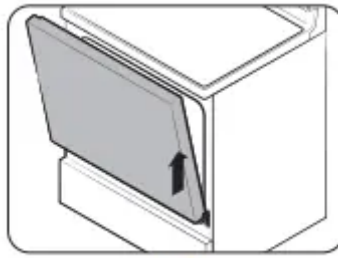

Fig. 2
5. Lift door up and out until the hinge arm is clear of the slot. (Fig.2)